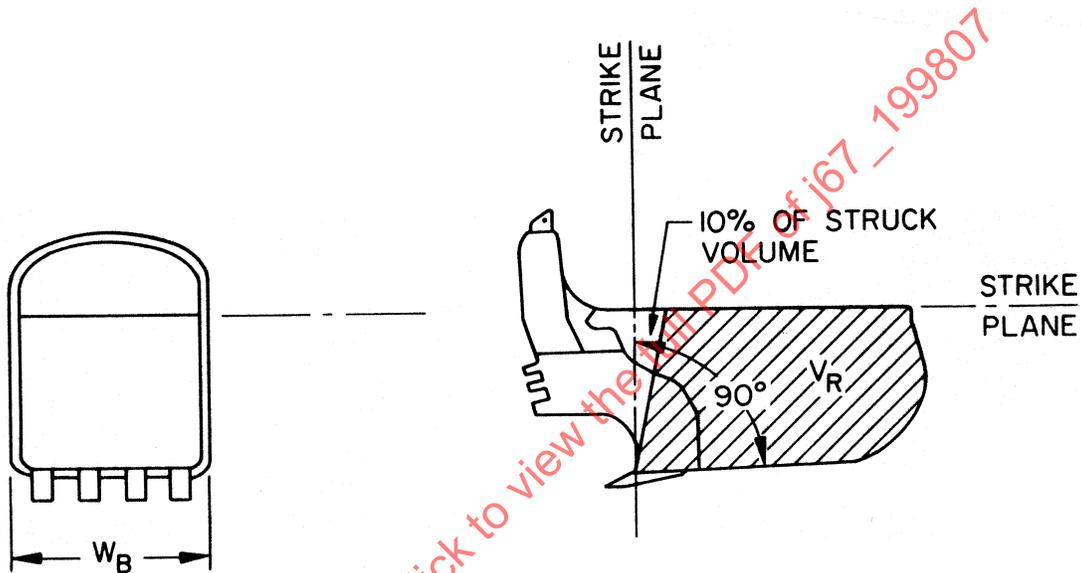

FIGURE 4—DRAGLINE BUCKET
3.5 Dragline Bucket—SAE rated capacity is the volume of the bucket after being struck across the top and vertically from the front edge of the bottom bit and then reduced by 10% to compensate for the angle of repose of the material (see Figure 4 and Equation 3).